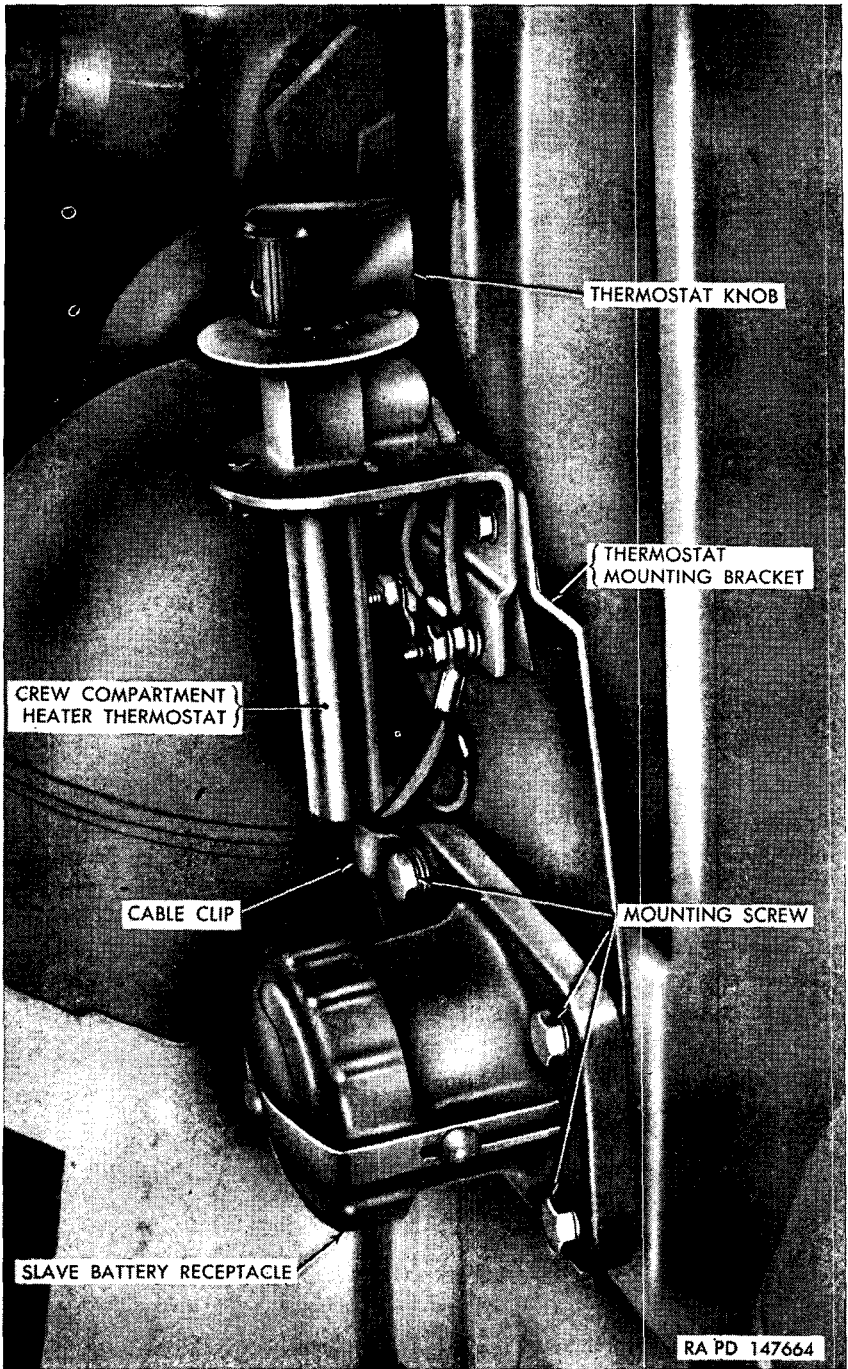

Figure 76. Crew compartment heater thermostat and slave battery receptacle.
and low positions with a range of 70° F. between high and low positions, is installed in crew compartment on column (fig. 76) between driver and assistant driver.
b. **STARTING HEATER.** To start heater, turn thermostat knob (fig. 76) to "HIGH" position and snap heater switch (fig. 18) to "ON" position. Warm air should be felt at heat outlet within 3 minutes. As soon as heater starts, adjust thermostat knob to desired position.
A slave battery receptacle (fig. 76) is installed in the crew compartment on the column to the rear of and between the drivers. This receptacle is connected to the vehicle batteries through the master relay. The receptacle is used to connect an external battery-charging source or additional power to operate any of the vehicle accessories or electrical equipment. In addition, if the vehicle batteries are discharged to the point where they cannot close the master relay when the master relay switch is turned on, an external battery can be connected into the slave battery receptacle to close the master relay. Extension cable 17-C-568 (fig. 78) is used to make these external connections to the slave battery receptacle.